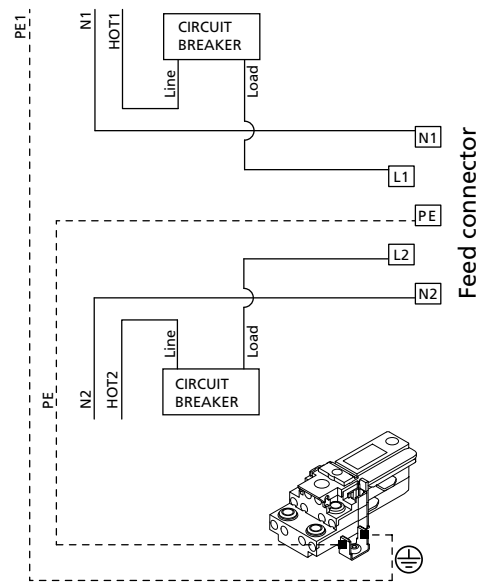

Figure 17: End feed wiring
- 2: Strip white Neutral 1 wire and connect to Neutral 1 terminal (N1) of feed connector. Clamp wire using screw. See Figure 17.
- 4: Connect load from overcurrent device to track feed connector terminal (L1) using provided wire. See Figure 17.